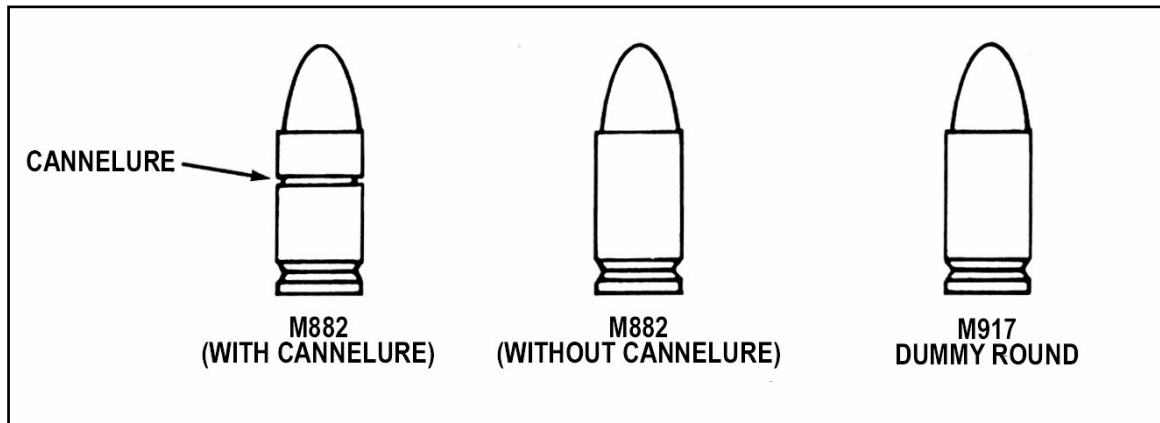

Figure 1-5. Ammunition.
a. **Type and Characteristics.** The specific type ammunition (Figure 1-5) and its characteristics are as follows:
- (1) Cartridge, 9-mm ball, M882 with/without cannelure).
- (2) Cartridge, 9-mm dummy, M917.